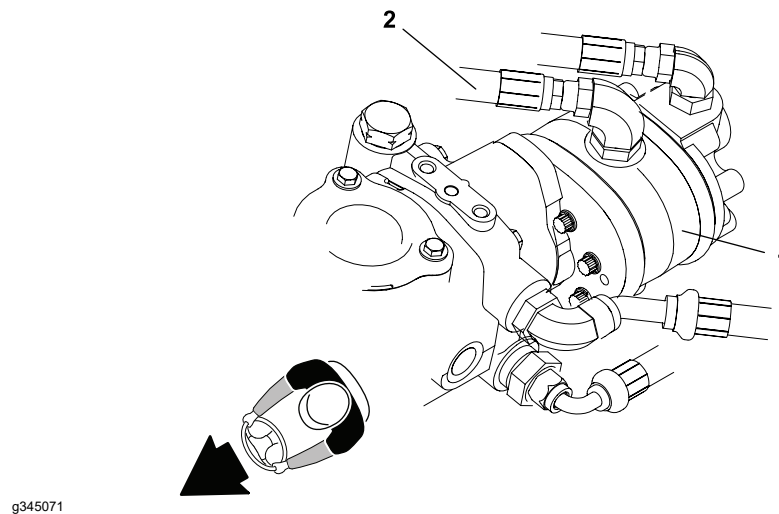

Figure 55
3. Disconnect the hose connection on the gear pump (P1) leading to port (P1) on the mow control manifold (Figure 55).